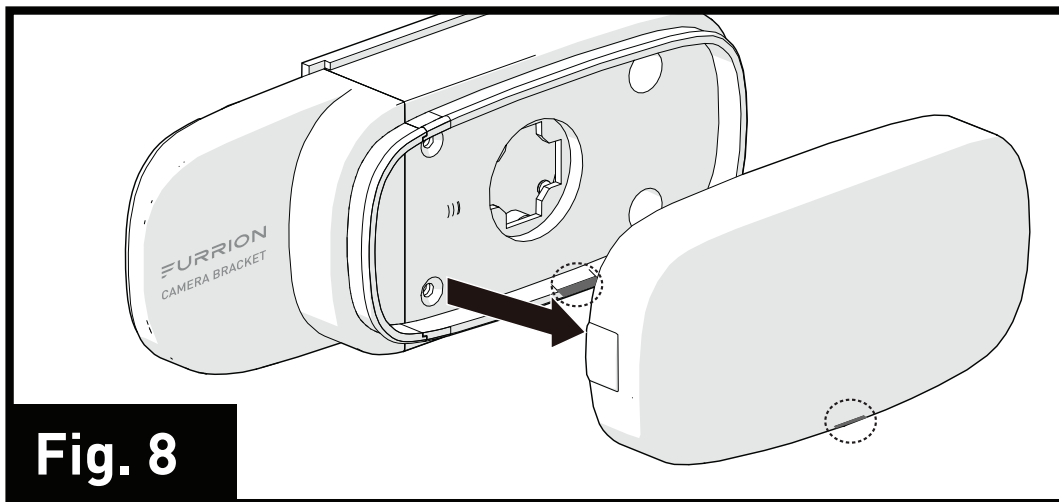

Fig. 8
2. Remove the lens cover by lifting the slot at the bottom of the traffic light. (Fig. 8)